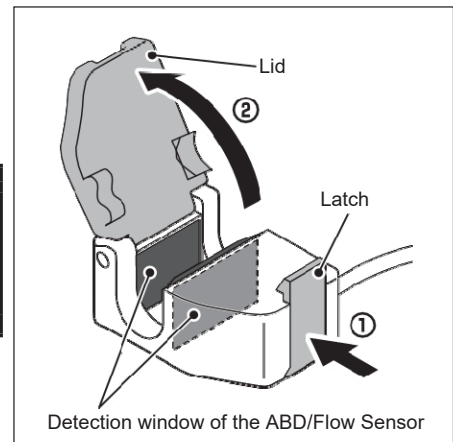

Figure 1-34
1. **Release the latch of the clamp-on ABD/Flow sensor (Figure 1-34 a), open the lid (Figure 1-34 b), and then apply vaseline to the detection window of the ABD/Flow Sensor.**